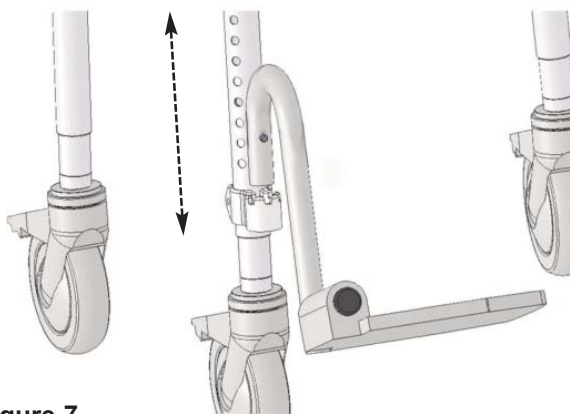

Figure 7
- 2) Slide the footrest into the clamp (Refer to Figure 7).